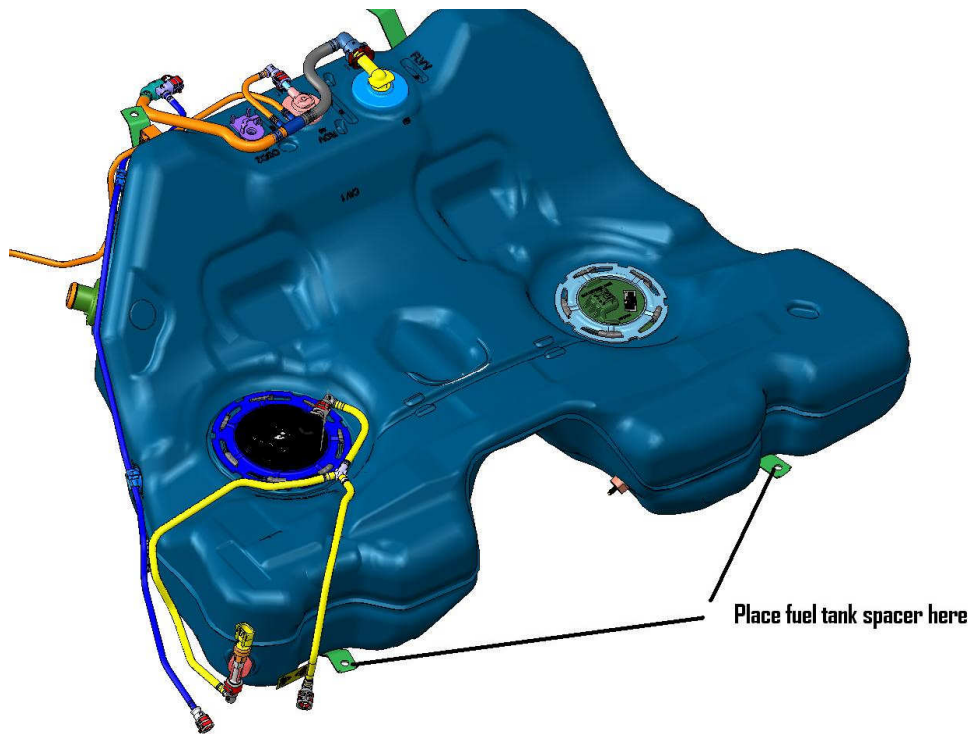

FIGURE 1-13
22. Now the fuel tank is ready to be installed in the vehicle. Attach the return line to the Aeromotive top plate before installing the tank (15605 for the 18673 and 15607 for the 18674). Coil the return line up to keep it out of your way. Take the supplied fuel tank spacers and place them between the tank straps and body. See **FIGURE 1-13**.